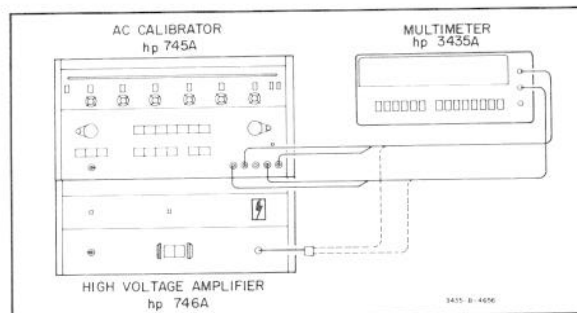

Figure 5-1. AC Voltage Accuracy Test.
- Connect the AC Calibrator as shown in Figure 5-1.